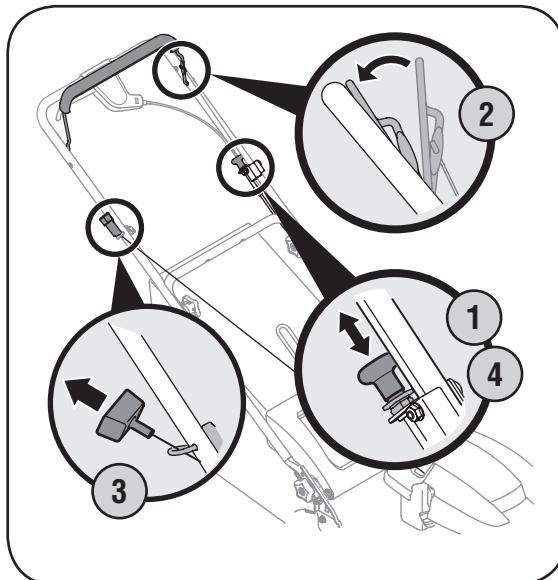

Figure 9-3: Starting the mower. (Your mower may differ from that shown)
3. Pull the starter grip lightly until resistance is felt, then pull rapidly to overcome compression, prevent kickback, and start engine. Repeat if necessary, Figure 9-3.
4. When engine warms up, push in the choke knob, Figure 9-3.
1. Pull out the choke knob located on the left side of the upper handle, Figure 9-3. Use of the choke may not be necessary if the engine is warm or the air temperature is high.